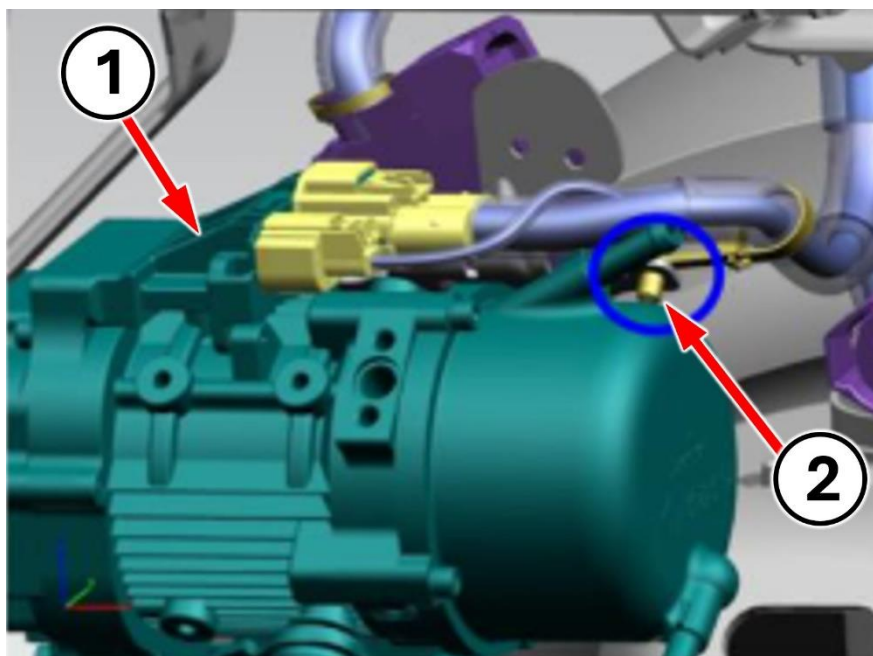

Figure B19 – Power Steering Pump Wire Harness Routing and Clipping
45. Install the EHPS wire harness fir tree clip to the EHPS pump/pump bracket (Figure B19).